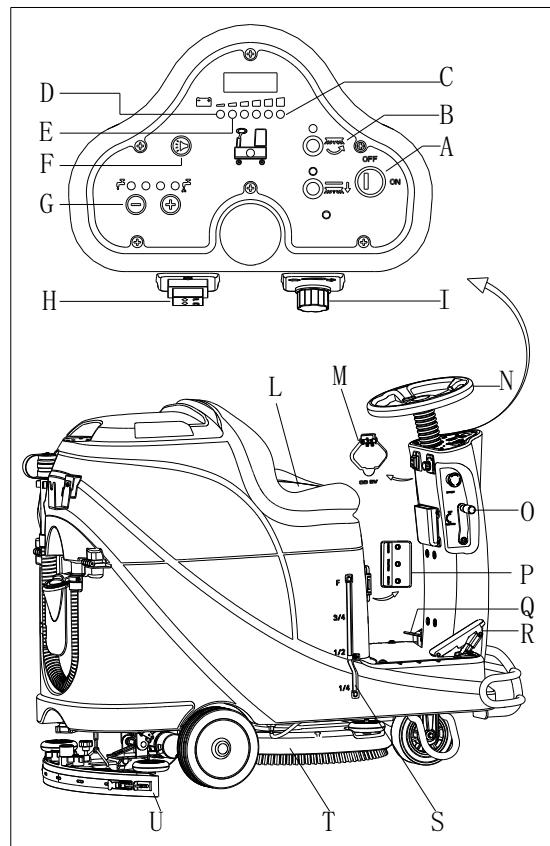

Figure 10
2. Sit on the seat (L, Figure 10), insert the key switch (A) and turn it to “ON”. If the green light (C) is on, the batteries are fully charged for use. If the yellow light (E) or red light (D) is on, batteries must be charged before operation. [Refer to MENTAINENCE chapters for batteries charging]
11. Loosen the accelerate pedal (R, Figure 10), the machine stops running.
12. Press brush button (B) to stop brush motor.
13. Lift brush assembly (T) by depressing the pedal (Q).
14. Lift squeegee assembly (U) by squeegee lifting/lowering lever (O), and a few seconds later the vacuum system will be closed.